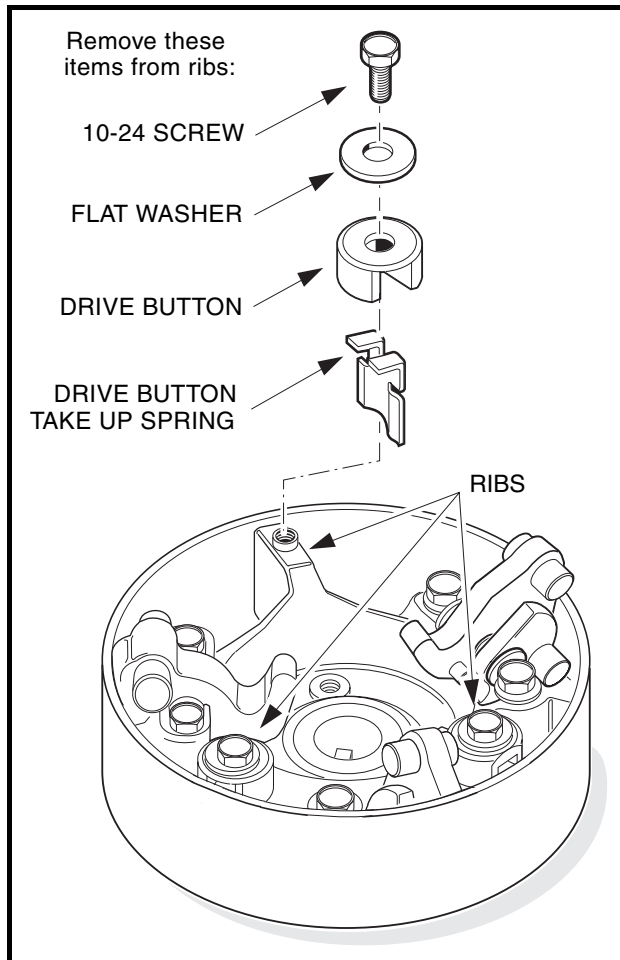

Figure 17-10 Drive Button Mounting
4. Remove the drive buttons (**Figure 17-10, Page 17-8**).
- 4.1. Remove the screws, flat washers, drive button take-up springs, and drive buttons as shown (**Figure 17-10, Page 17-8**).
14. While compressing each take-up spring, install a drive button over the rib and take-up spring as shown (**Figure 17-10, Page 17-8**).
15. Install a no. 10-24 button retaining machine screw with flat washer through each button and into the rib. Tighten the three screws to 34 in-lb (3.8 N·m) (**Figure 17-10, Page 17-8**).